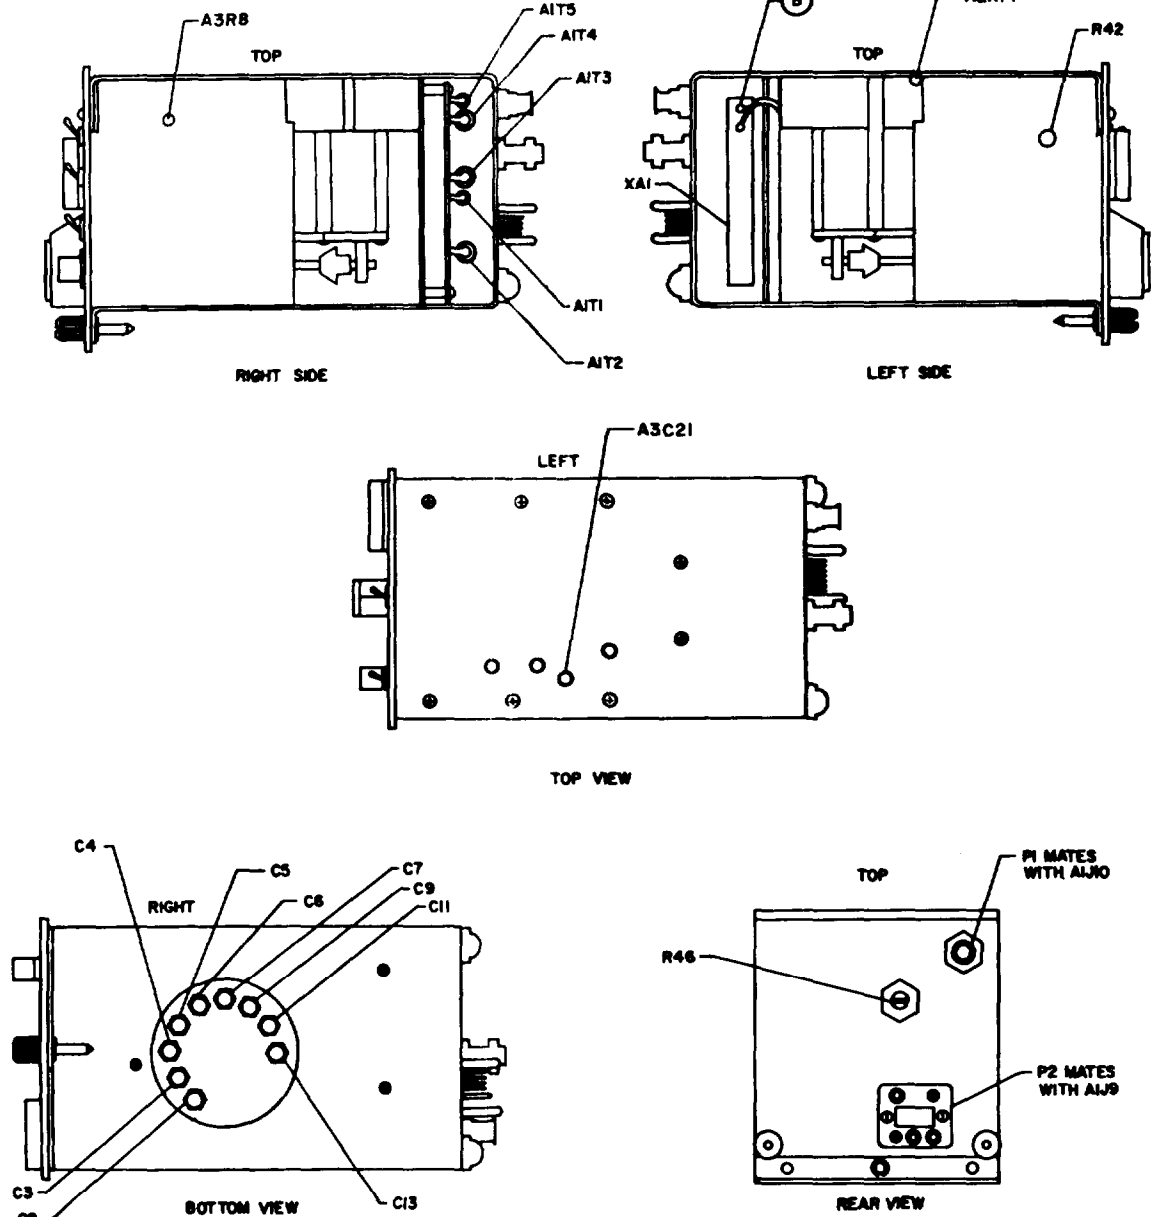

Figure 5-4. Electronic Frequency Converter A2, Locational Adjustments and Test Points
- (h) Adjust A2A1T5 (figure 5-4) for a 50-mc sine wave with a maximum amplitude.
(p) Adjust A2R46 (figure 5-4) clockwise until the counter shows a noise count; then turn counterclockwise just below the point where the noise count stops.
(e) While observing waveform on oscilloscope, adjust band 500 adjustment capacitor A2C2 (figure 5-4), for a maximum 10-mc output. The waveform will be clipped.
(k) Adjust the balance adjustment resistor A2R14 (figure 5-4) for a minimum reading on the rf millivoltmeter.